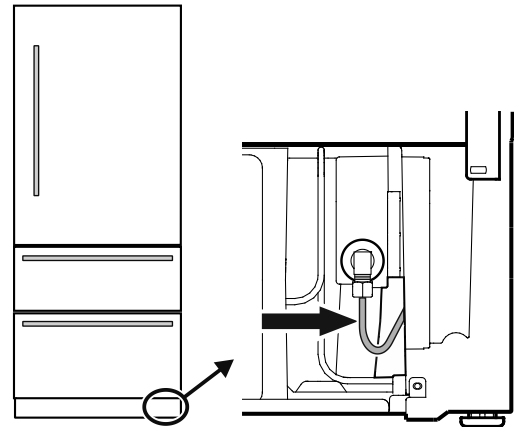

Figure 20
8. Screw the adapter onto the solenoid valve (Figure 20).